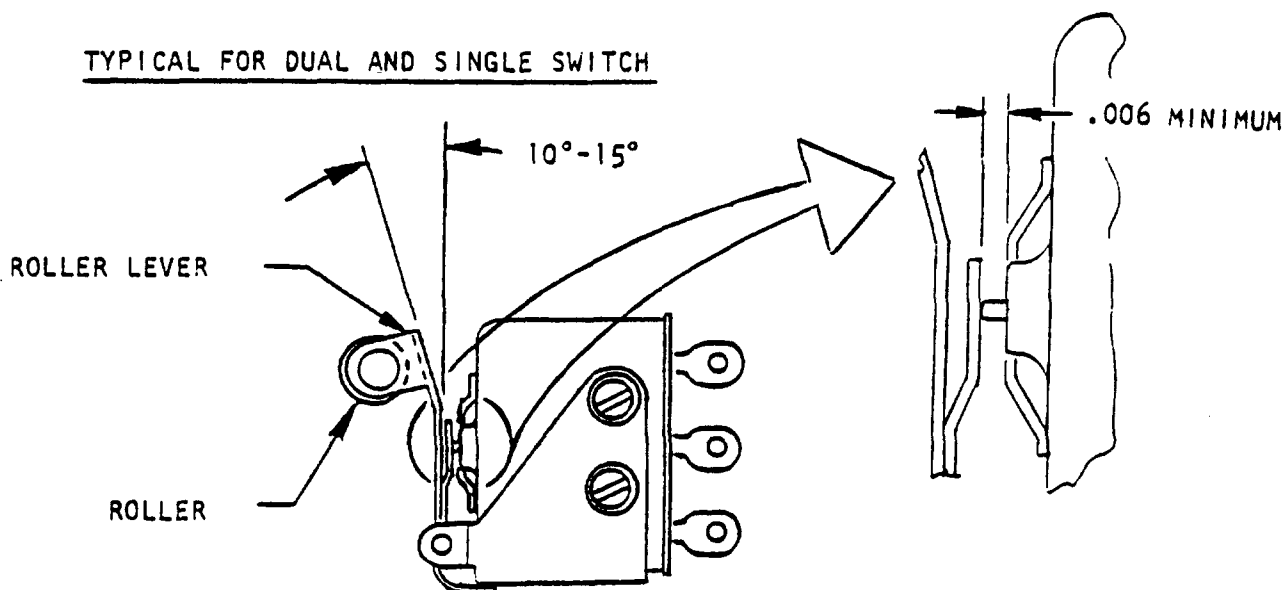

Figure 201 - Pneumatic Latch Switch Pre-adjustment
- (1) Remove thrust reverser/aft nacelle from the aircraft per 78-30-00, Removal/Installation.
- (2) Separate the translating structure from the aft nacelle per 78-30-04, Removal/Installation.
- (3) Remove all hold-down clamps securing the harness in the aft nacelle.
- (4) Remove the electrical connector from the pressure switch, and the two connectors from the pneumatic actuator.
- (5) Remove the pneumatic latch switches from the pneumatic latches by:
- (a) On early production reversers not incorporating SC-F20-004A, remove the two nuts and screws (see Figure 201, 78-30-10) securing the switches to the latches and lift switches out.
- (b) On early production reversers incorporating SC-F20-004A and later production reversers with improved switches installed (see Figure 201, 78-30-10), remove the switches by removing the aft jam-nut and removing the switch from the mounting bracket.
- (6) Remove the deploy switch from the outboard pinion gearbox by:
- (a) On early production reversers not incorporating SC-F20-004A, remove the deploy switch by removing the two nuts, washers and screws (see Figure 201, 78-30-08) securing the mounting bracket to the outboard pinion gearbox. Removing the mounting bracket from the gearbox gives access to remove the two nuts, washers and screws securing the switch to the mounting bracket and remove switch from bracket.
- (b) On early production reversers incorporating SC-F20-004A and later production reversers with improved deploy switches installed, remove the deploy switch by removing the mounting bracket (see Figure 201, 78-30-08) as stated in (a) above. Remove switch from bracket by removing the innermost jam-nut and backing the switch out of the bracket.
- (4) Introduce the flasher unit into the aft nacelle and secure with three nuts on the mounting studs. Attach the seven ground wire connectors to the two mounting screws and secure with two self-locking nuts.
- (5) Install the resistor on frame 5 and secure with the two screws, washers, lock-washers and nuts removed in Step (7) above.
- (6) Connect Cannon connectors to the pressure switch, pneumatic actuator regulator valve and directional control valve.
- (7) Install the pneumatic latch switches onto the pneumatic latches by:
- (a) On early production reversers not incorporating SC-F20-004A, pre-adjust the pre-soldered and potted switches before installation per Figure 201. Install the switches onto the pneumatic latches and secure with the two screws and nuts removed in Step (7)(a) above (see Figure 201, 78-30-10). Adjust installed switches per Adjustment/Test of this chapter after installation of translating structure.
- (b) On early production reversers incorporating SC-F20-004A and later production reversers with improved latch switch provisions, install the switches into the pneumatic latch switch mount bracket (see Figure 201, 78-30-10) and secure using the adjusting jam-nuts. Adjust switches per Adjustment/Test of this chapter after translating structure is installed.
- (8) Install the deploy switch onto the outboard pinion gearbox by:
- (a) On early production reversers not incorporating SC-F20-004A or SC-F20-006, the translation section must be removed to install the deploy switch (see Section 78-30-04 for removal instructions). Preadjust switch per Figure 201. Install the deploy switch into the mounting bracket with the two screws, washers and nuts removed in Step (6)(a). Adjust the switch to "paddle" contact using a screwdriver technique similar to Figure 202. The switch is properly adjusted when the actuator "paddle" has no play and moves to actuate the switch as soon as pressure is applied. Mount the switch and bracket onto the pinion gearbox and secure with screws, washers and nuts removed in Step (6)(a). Check deploy switch per Adjustment/Test of this chapter after installing translating structure.
pinion gearbox and secure with the two screws, washers and nuts removed in Step (6)(a) (see Figure 201, 78-30-08). Check deploy switch per Adjustment/Test of this chapter after installing translating section.
- (9) Final install all hold-down clamps removed in Step A(3) above.
- (10) Install translating structure into aft nacelle per 78-30-04, Removal/Installation.
- (11) Install thrust reverser/aft nacelle onto aircraft per 78-30-00, Removal/Installation.